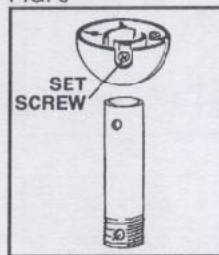

FIG. 7
**Step 3.** Remove the hanger ball by loosening the set screw and removing the cross pin, slide ball off rod. (Fig. 7)